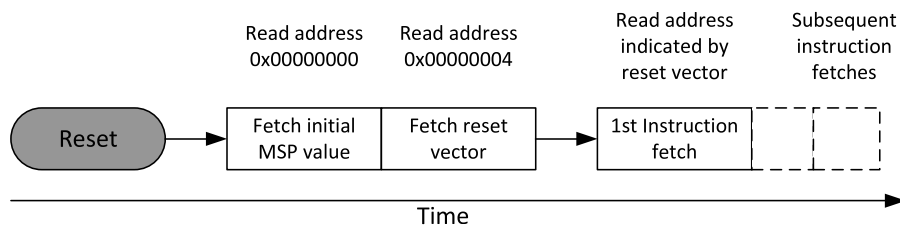

FIGURE 4.30
After reset and before the processor starts executing the program, the Cortex-M processors read the first two words from the memory (Figure 4.30). The beginning of the memory space contains the vector table, and the first two words in the vector table are the initial value for the Main Stack Pointer (MSP), and the reset vector, which is the starting address of the reset handler (as described in section 4.5.3 and Figure 4.26). After these two words are read by the processor, the processor then sets up the MSP and the Program Counter (PC) with these values.